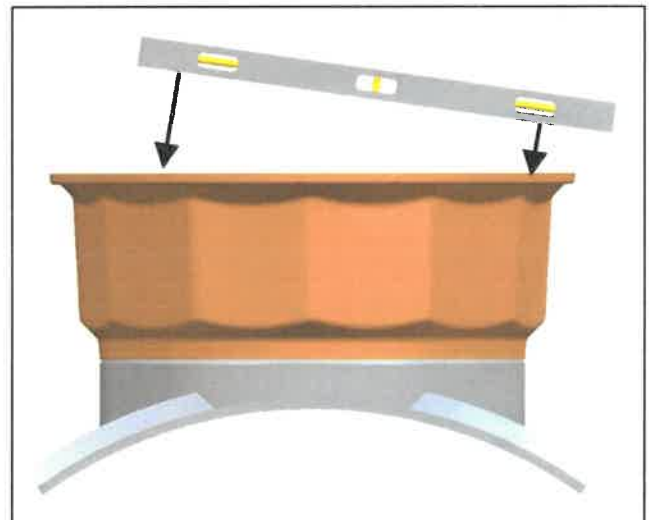

Figure 7
* See Installation Instructions supplied with Flexworks Sump Mounting Flanges. Ensure sump is level as described in Method 3c and Figure 7.
Attach the base of the sump to the tank flange per tank manufacturers instructions. Reverse flange sumps have 24 bolt holes on a 32" bolt circle with a 29.25" ID. Ensure sump is level as described in Method 3c and Figure 7.
c) Use a level to set the sump base on the collar as shown in Figure 7.